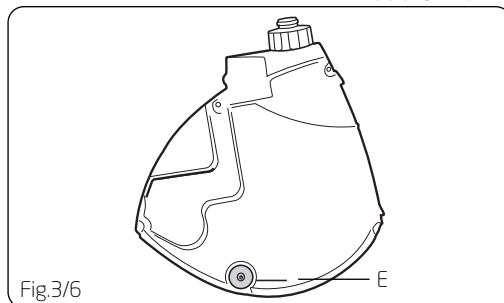

Fig.3/6
Fill tank completely with hot tap water (max 50°C). Replace cap. Be sure the valve (D) is in the cap ring (C) before screwing the cap back on the tank (Fig.3/5).